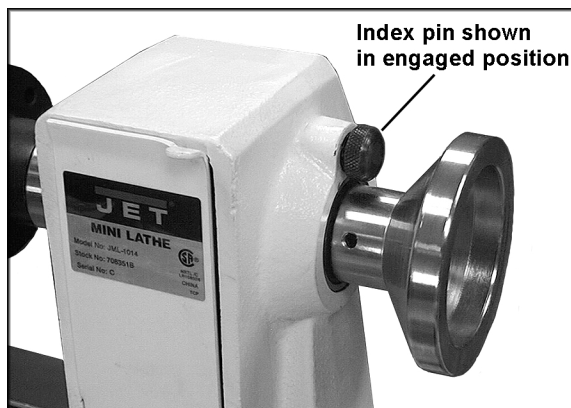

Figure 13
1. To use the index pin (Figure 13), screw it farther into the headstock until it engages a hole in the spindle pulley.